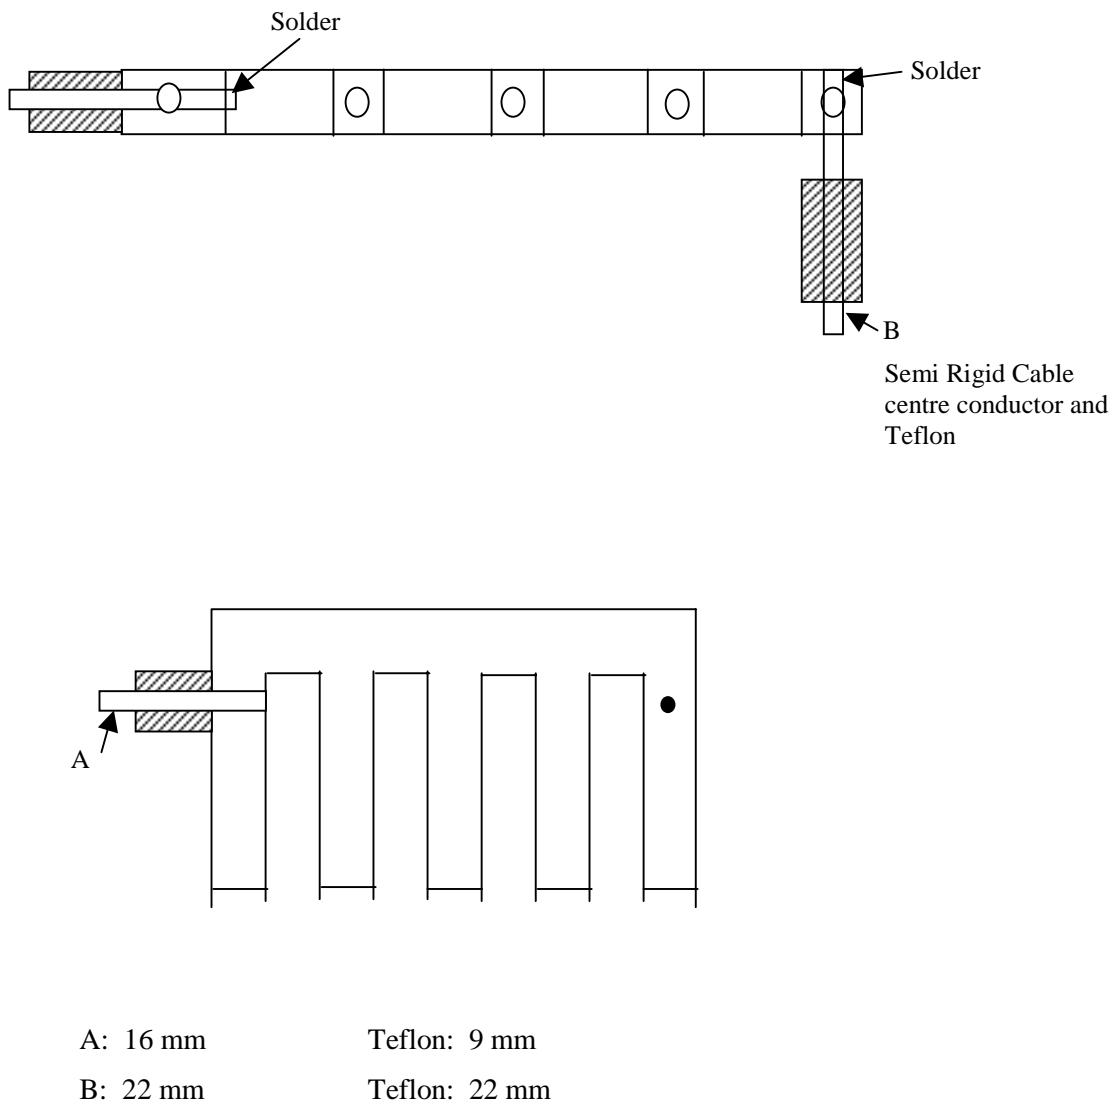

Figure 1: Dimensions for Input/Output Probes
1. Cut the wire to the lengths shown in Figure 1.
3. Insert a Teflon ring in each of the five counter bored holes in the resonator finger. (Figure 1).